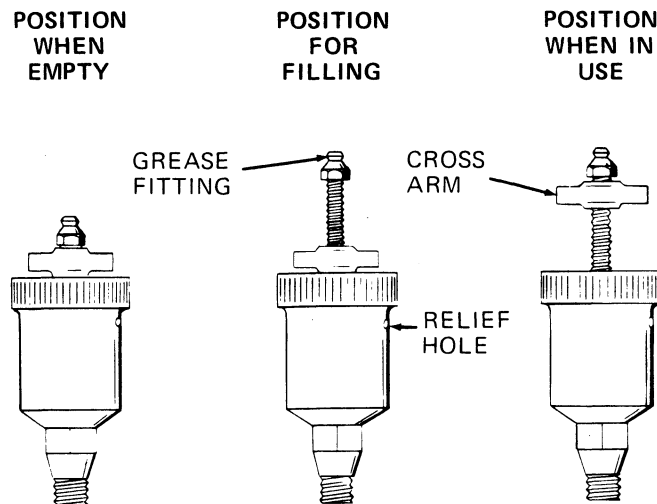

Figure 4. Automatic Lubricating Grease Cup
Before removing the seal assembly, turn the cross arm on the seal grease cup (16) clockwise until it rests against the cover (see figure 4). This will prevent the grease in the cup from escaping after the seal is removed.
Before starting the pump, fill the grease cup through the grease fitting with a good grade of No. 2 pressure gun grease until grease escapes from the relief hole. Turn the grease cup arm counterclockwise until it is at the top of the stem; this will release the spring to apply grease to the seal (see figure 4).